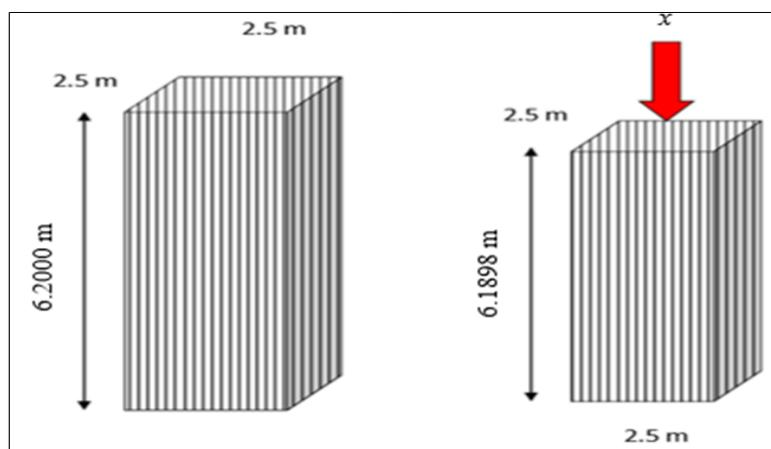

Figure B4
Compression strength parallel to grain creates a tendency to compress the wood fibre in the lengthwise position. **Figure B4** showed the compression strength parallel to grain occurred in the glulam.
- i. Based on **Figure B4**, calculate the x value if given the stress of load is 2000 N/m^2 .